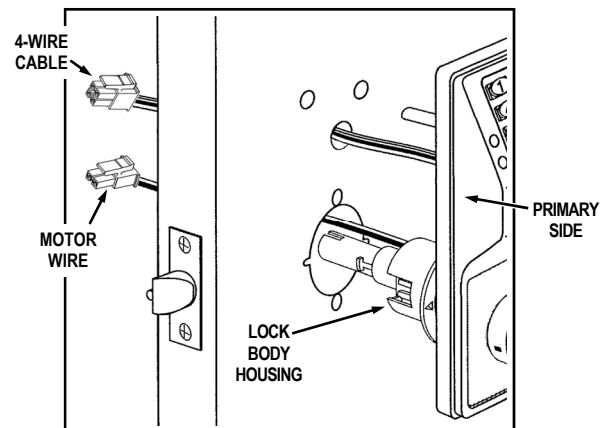

FIG. 9: INSTALL PRIMARY SIDE AND LOCK BODY (Lever, Housing & Lock Body)
1. As shown in Fig. 9, insert Motor Wire plug through the 2-1/8" hole and insert the 4-Wire Cable through the 1" hole.